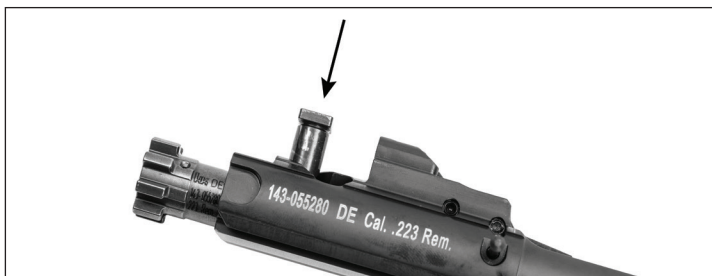

Fig. 34 – Bolt Carrier reassembly
- b. Insert the cam pin into the shaft of the bolt carrier, ensuring that the hole for the firing pin on the cam pin is aligned with the firing pin channels on both the bolt head and bolt carrier (Fig. 34).